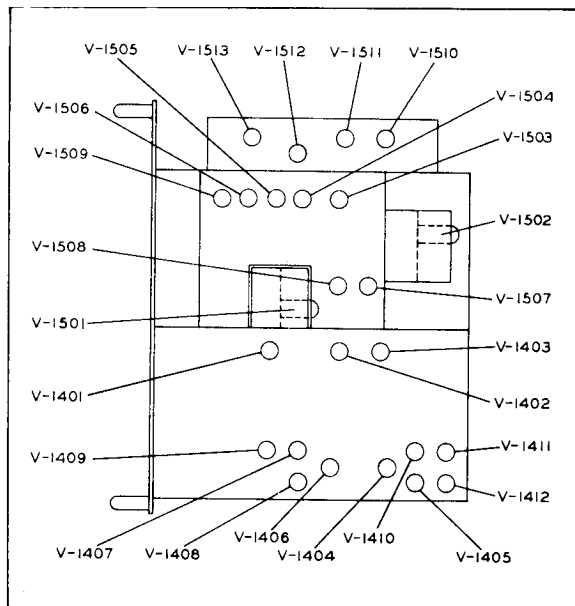

Figure 4-1. Signal Generator SG-13/ARN
- All tubes are of the miniature type. Remove by pulling straight out of socket, taking care not to bend the base pins. See figure 4-1 for tube location.